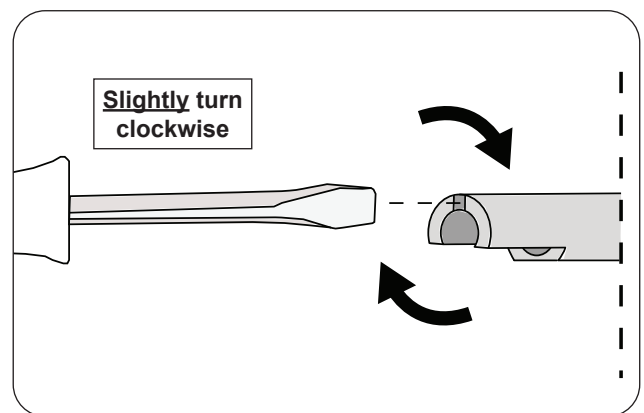

Fig. 35-2 Stem adjustment
2. Insert a flathead screwdriver into the split portion of the stem and GENTLY turn the screwdriver clockwise. Be cautious! Only a slight turn is needed as the stem is flexible. See Fig. 35-2.